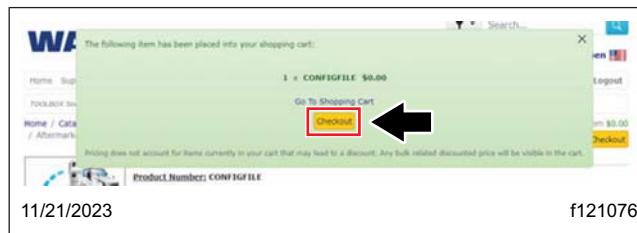

Fig. 12, Selecting Checkout
16. Once the configuration file has been added to the shopping cart, select 'Go To Shopping Cart' or 'Checkout' in the window that appears. See Fig. 12.